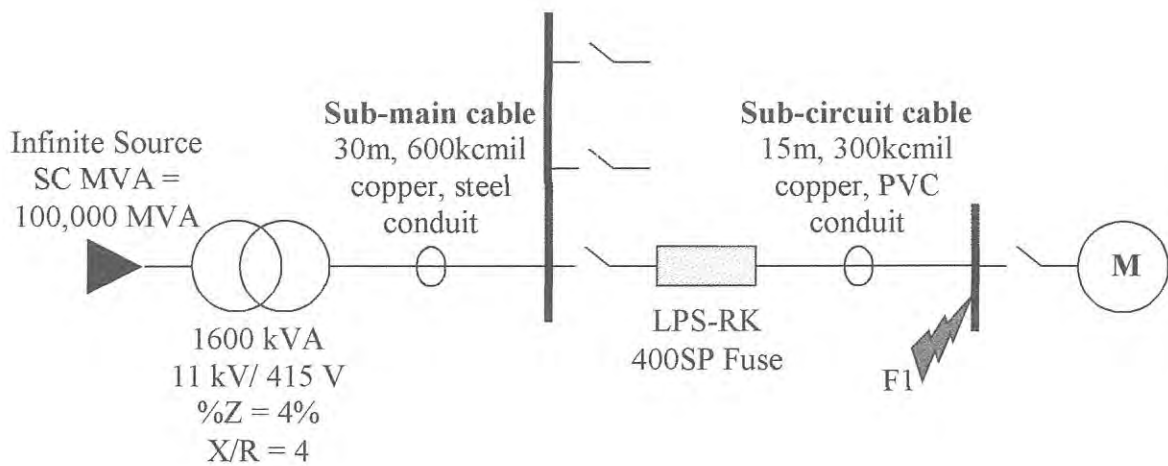

Figure Q4(b)
- (b) **Figure Q4(b)** depicts a simplified electrical installation schematic for a factory plant. Analyse the total symmetrical short circuit current for this installation using Per Unit (PU) method if the fault occurred at Motor Control Centre (MCC) as indicated at location FI in the figure. The cable impedance calculations should refer to **Table Q4(b)**. Take the disconnecting switch reactance (fuse) as 0.00008Ω and the calculation base as 10,000 kVA.
- (c) Examine again the total symmetrical short circuit current for the installation shown in **Figure Q4(b)** using Ohmic method. Compare the error caused between the Per Unit method and the Ohmic method.